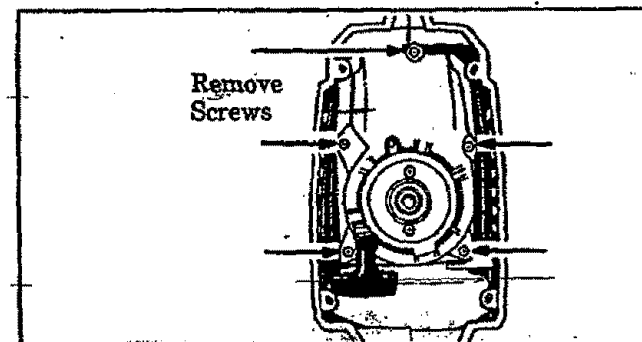

Figure 16
5. Remove the 5 screws from the pulley housing, then remove the pulley housing and pulley from the engine. Figure 16.